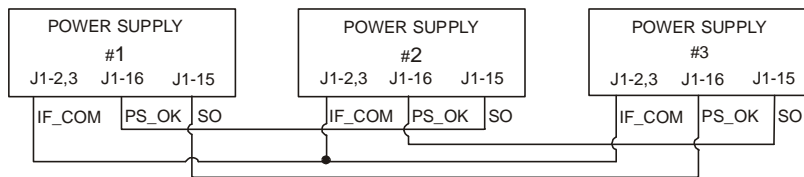

Fig. 5-6: Daisy-chain connection
5.15.1.3 Daisy Chain Connection: (See Fig. 5-6)
- f) Connect J1-2 (or J1-3) common to all supplies (See Fig. 5-6).
- f) Switch SW1 position 5 should be in its down position for all power supplies (See Fig. 5.6).
- k) Connect J1-2 (or J1-3) common to all supplies (See fig. 5.6).
Fig.5-6 shows connection of three units, however the same connection method applies to systems with a larger number of units.